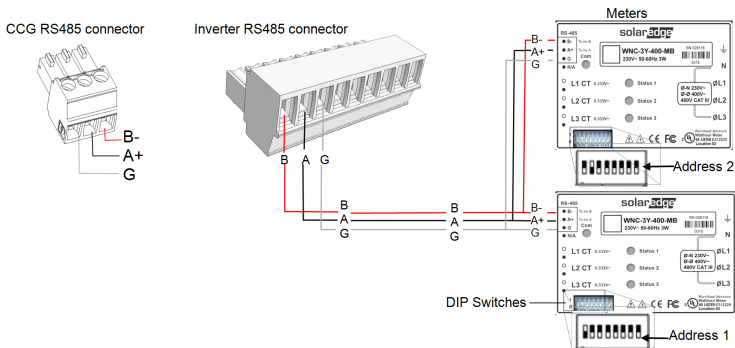

Figure 21: Connecting the meters to the inverter or Commercial Gateway RS485 connector
1. Connect the twisted pair wiring to the meters as shown in *Figure 21*.